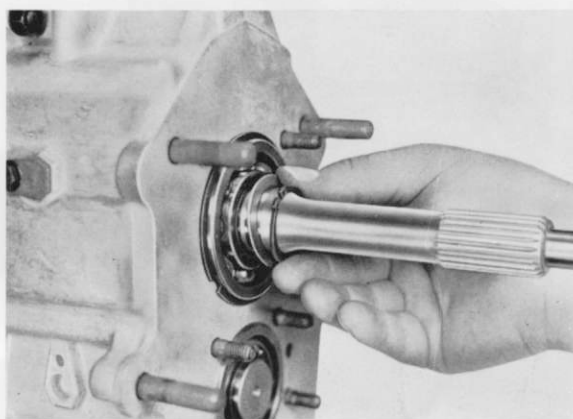

Fig. 55
6. Select a spacer (209) such that the circlip (208) sits tightly in the radial groove of the input shaft. Assemble the spacer and circlip (Fig. 55).